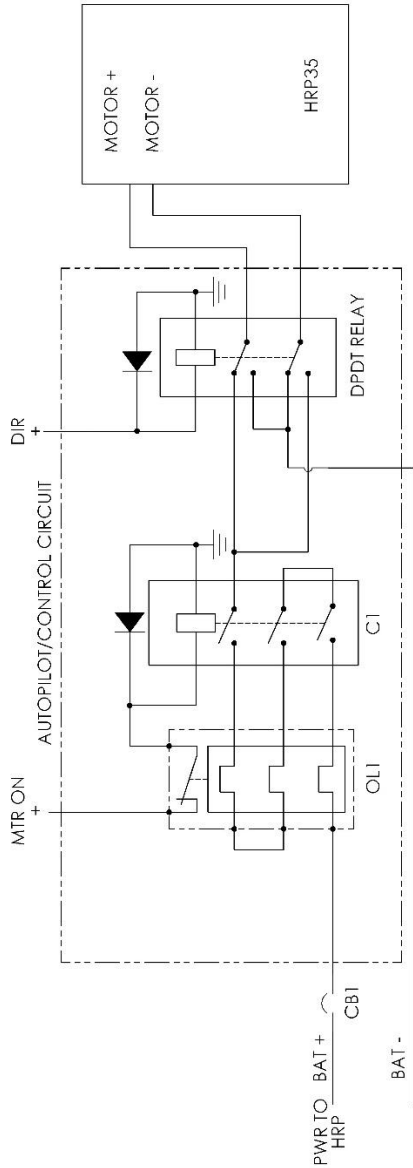

Figure 4: HRP Basic recommended wiring schematic
The minimum arrangement required to electrically operate the HRP is shown in Figure 4. This consists of a main contactor and thermal overload at “C1” and “OL1” respectively to provide the connection to the vessels main power supply. A secondary reversing contactor is required to reverse the polarity of the motor to provide bi-directional fluid flow. The input leads to the control circuit can be connected to an autopilot system as described in section 4.3.1 or a jog style control as described in section 4.3.2.
A circuit breaker, shown as “CB1” in Figure 4, is also required on the main power lead. This circuit breaker protects the equipment in the event of a short circuit, as the thermal overload will typically have a time delay before isolating the circuit. Sizing of the circuit breaker should be done as recommended by the thermal overload manufacturer to prevent damage to the overload during a large overcurrent condition. The circuit breaker must be sized so its fast acting portion (Magnetic trip curve) will protect the overload in the event of a short circuit or severe overcurrent. Heed must be given though to the maximum hard over current specified in Table 1, circuit breakers should be sized so the fast trip is above this value.
2. Observe the recommended thermal overload setting given in section 2.1, Table 1, and set the thermal overload, OL1 in Figure 4, to this value.